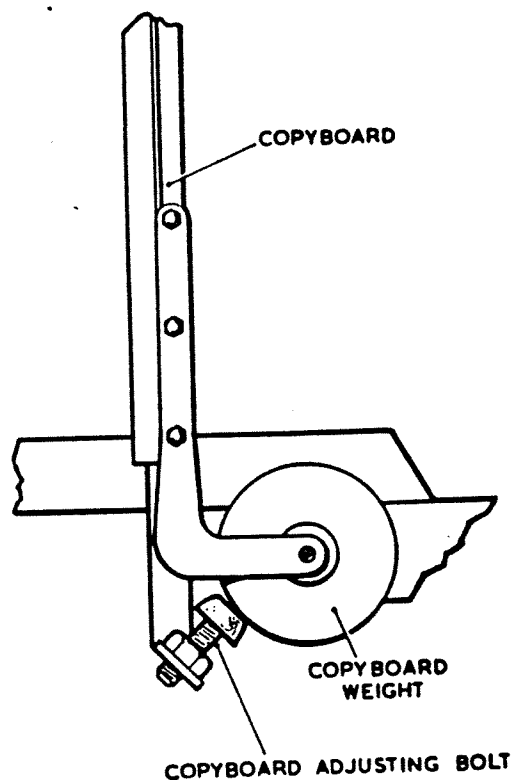

Fig 2B-5. 1385 V.R. Camera - Copyboard Counterpoise Weight Stop Adjustment.
4. Fit the reflector brackets by feeding the flexible cables through the large holes in the sides of the camera frame and securing the flanges to the frame by means of the three screws provided. Care should be taken to ensure that the right-hand and left-hand reflectors are correctly fitted so that the longer side of each reflector is nearest the camera lens, Fig. 2B-3.